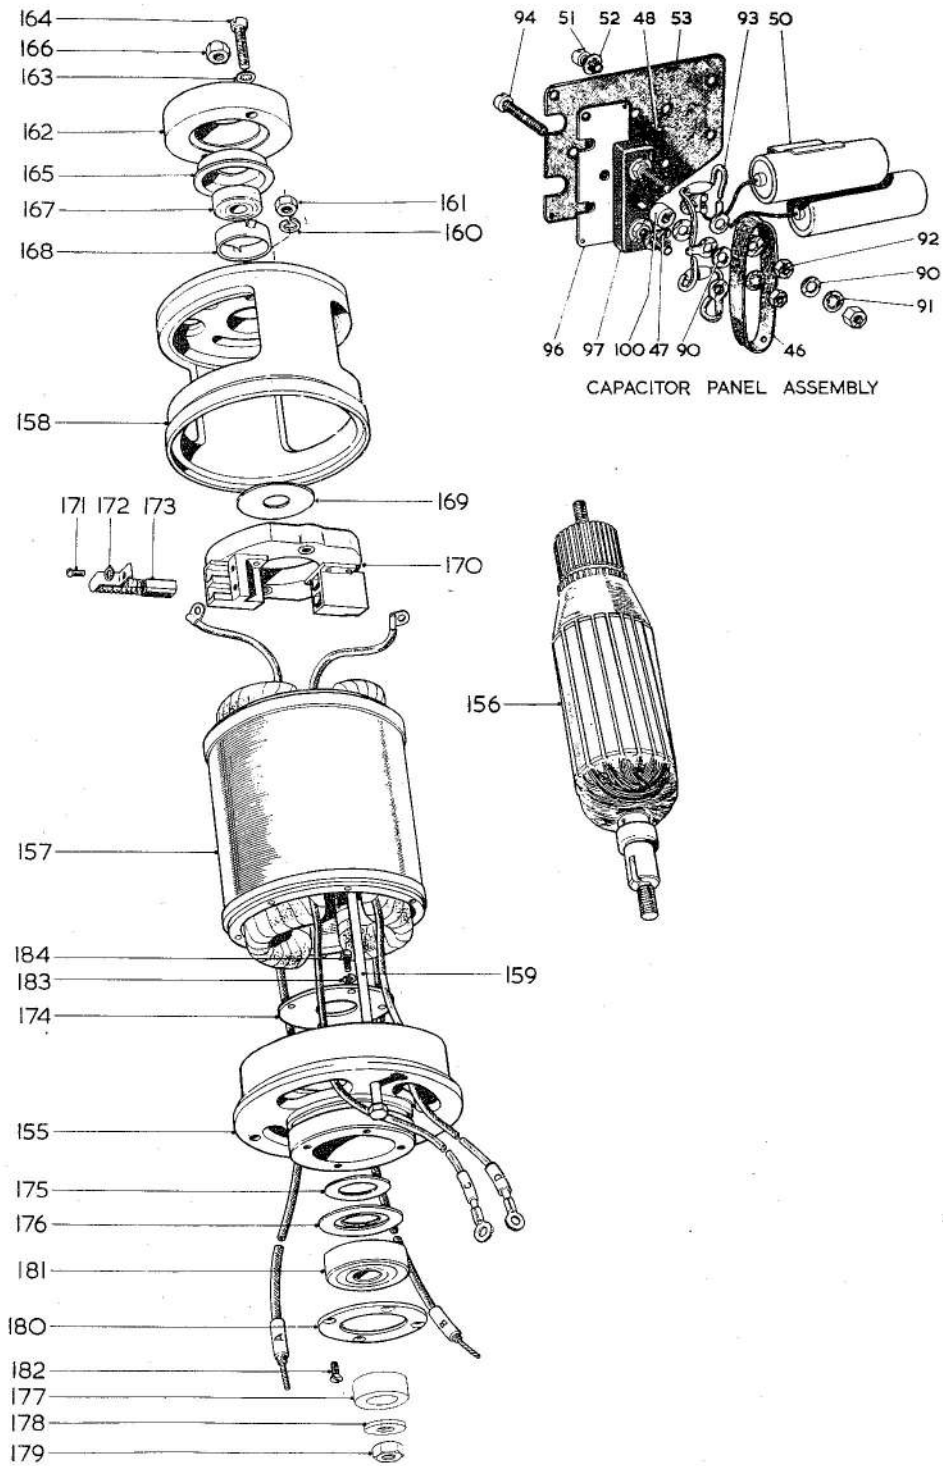

Fig. 6. Exploded view of motor and suppressor panel
(4) Press the bearing (111), together with the dust shield (114), out of its housing.
**Key to fig. 6**
*Dismantling the capacitor panel assembly (fig. 6)*
13. (1) Disconnect the capacitor tags, and the condenser tags from the terminal block terminal screws.